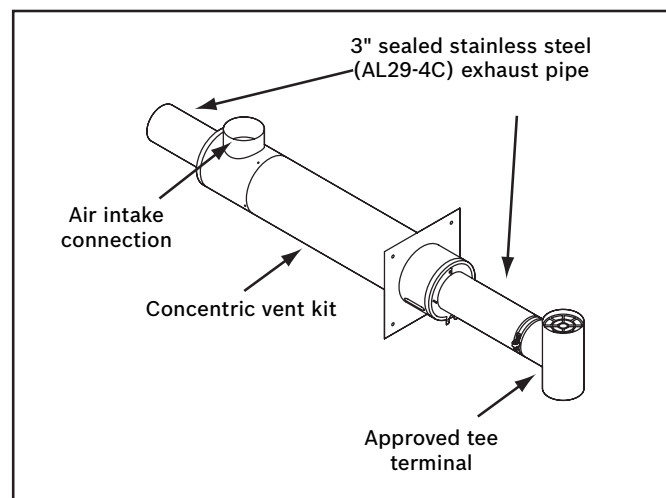

Fig. 5 Concentric vent assembly
9. On the outside of the structure, connect tee terminal to exhaust vent pipe (Fig. 5). Be sure to maintain 12" clearance from exterior wall to tee terminal as indicated in Figure 6.
10. Connect combustion air piping to air intake connection on concentric vent kit (Fig. 5). Secure with machine screws.